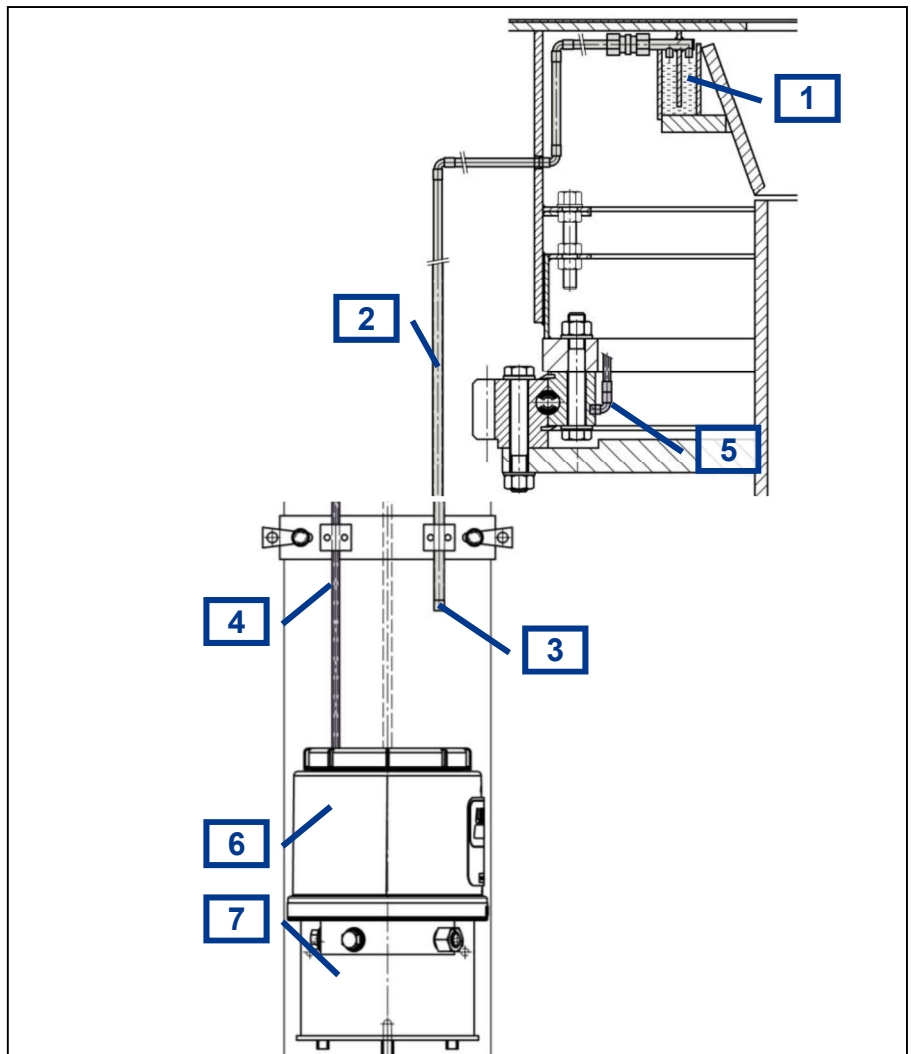

Fig.: 22 Labyrinth seal
- 1. ► Use a grease gun to press lubricant into the lubrication nipple (Fig.: 22/[3]) for the labyrinth seal (Fig.: 22/[1]).**